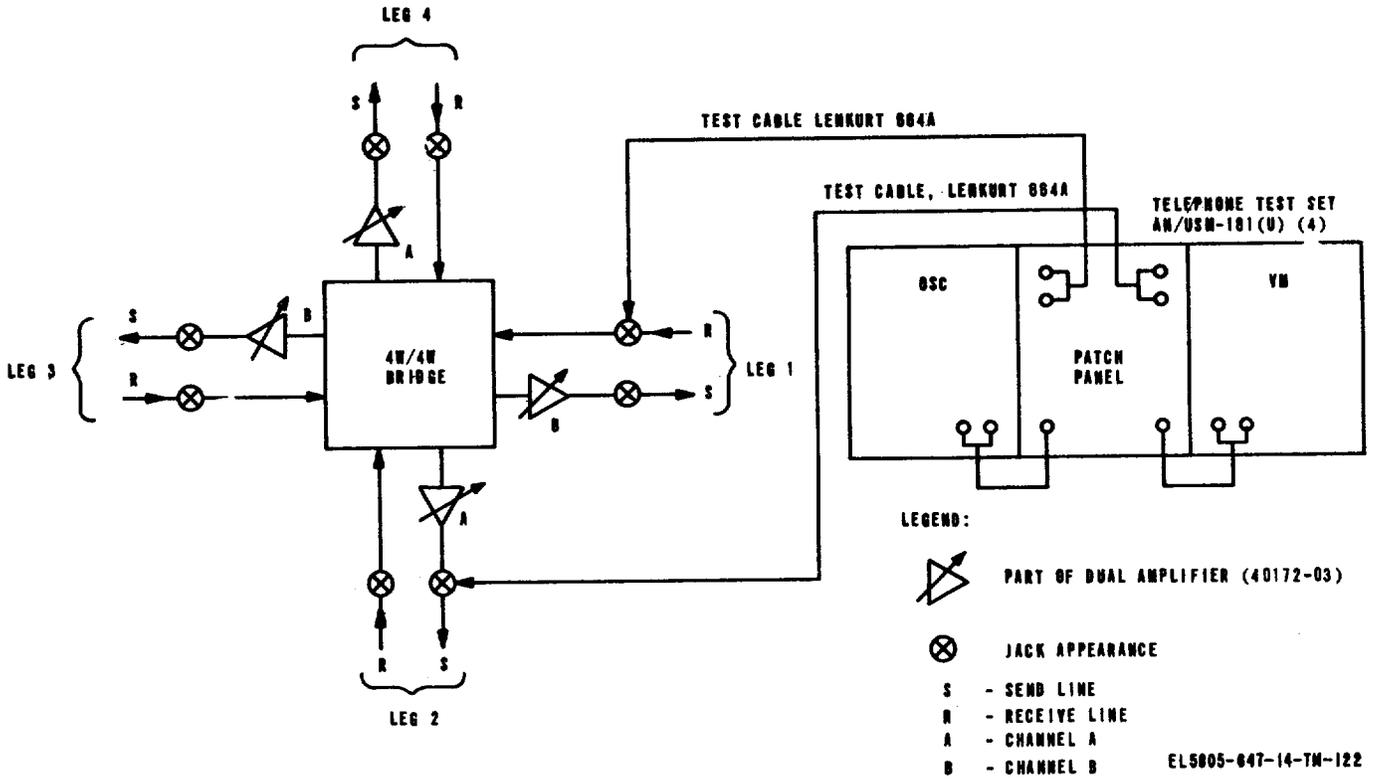

Figure 2-14. Dual amplifier, 40472-03/40172-03, test setup diagram.
(1) Using the test equipment setup shown in figure 2-14, set the oscillator for the following: 1kHz frequency (dial accuracy), 600-ohm impedance and 0-dbm level (set with the voltmeter terminated into 600 ohms).
(2) Set the voltmeter of the test set for an input of bridging impedance and 0-db level.
(3) Sequentially connect the test set oscillator and the voltmeter to dual amplifier jack locations as directed by the dual amplifier check and adjustment chart (g below).
(4) Adjust the respective A GAIN ADJ and B GAIN ADJ for specified level indicated on right-hand column of the adjustment chart.
(1) Using the test setup shown in figure 2-14 set the oscillator portion for the following: 1-kHz frequency (dial accuracy), for 600-ohm impedance and a 0-dbm level (adjust with the voltmeter bridging the oscillator's output).
(2) Set the voltmeter portion of the test set for 600-ohm impedance and a 0-dbm level.
(3) Sequentially connect the test set oscillator cables and the voltmeter cables to the 4W /4W bridge legs and the dual amplifier legs as specified by the dual amplifier check and adjustment chart (g below).